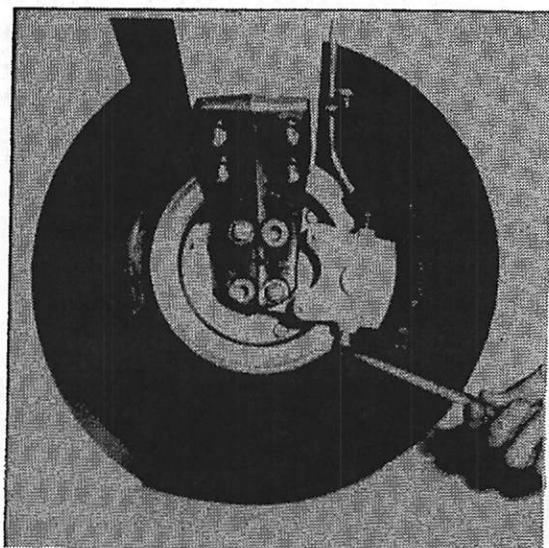

Figure 8-1. Brake Assembly Bleeder Valve
- a. Bleed the fluid from the brake system by removing the bleeder valve in the bottom of the brake assembly (Figure 8-1).